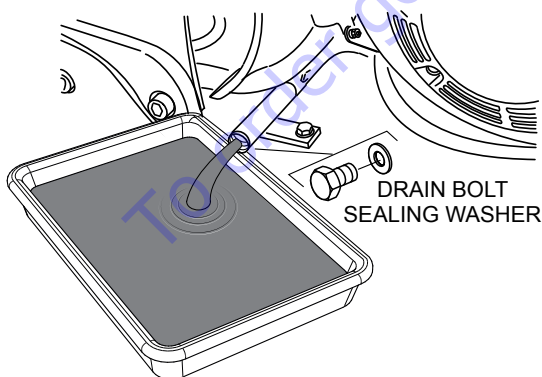

Figure 23. Draining Engine Oil
- Remove the oil drain bolt (Figure 23) and sealing washer and allow the oil to drain into a suitable container.